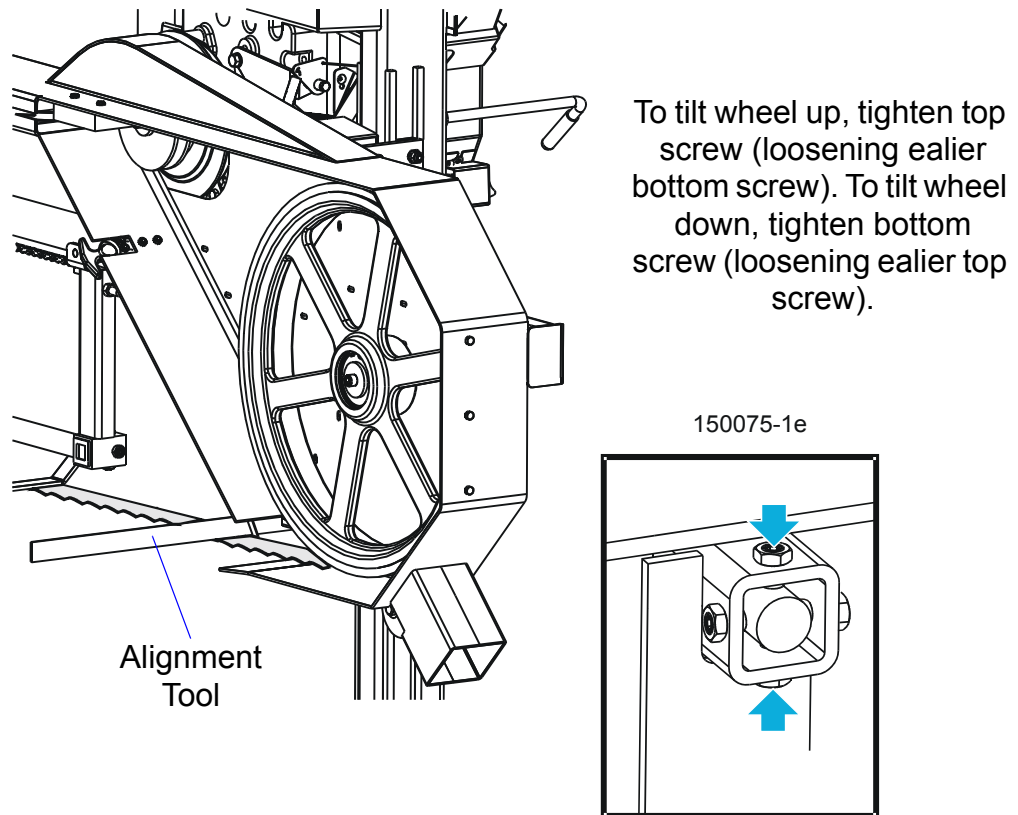

FIG. 3-5
- Remove the tool from the blade and reattach it near the inner blade guide. Measure from the tool to the bed rail at both ends of the tool. If the measurements at the front and rear ends of the tool differ by more than 1/16" (1.5 mm), adjust the vertical tilt of the drive-side blade wheel. See Figure 3-5.
See Figure 3-5. To tilt the drive-side blade wheel down, loosen the top adjustment screw, loosen the nut on the bottom adjustment screw and tighten the bottom screw. Tighten the top and bottom nuts.